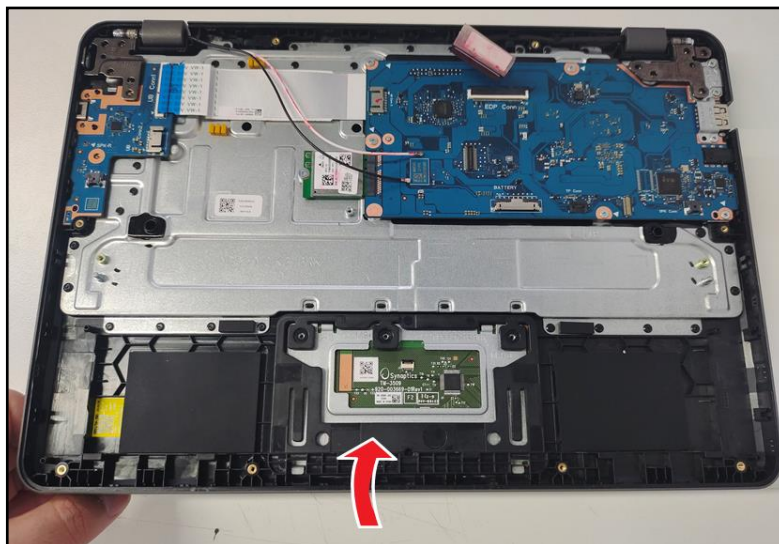

Figure 3-35. Mainboard Removal
2. Open the top assembly (Figure 3-35).